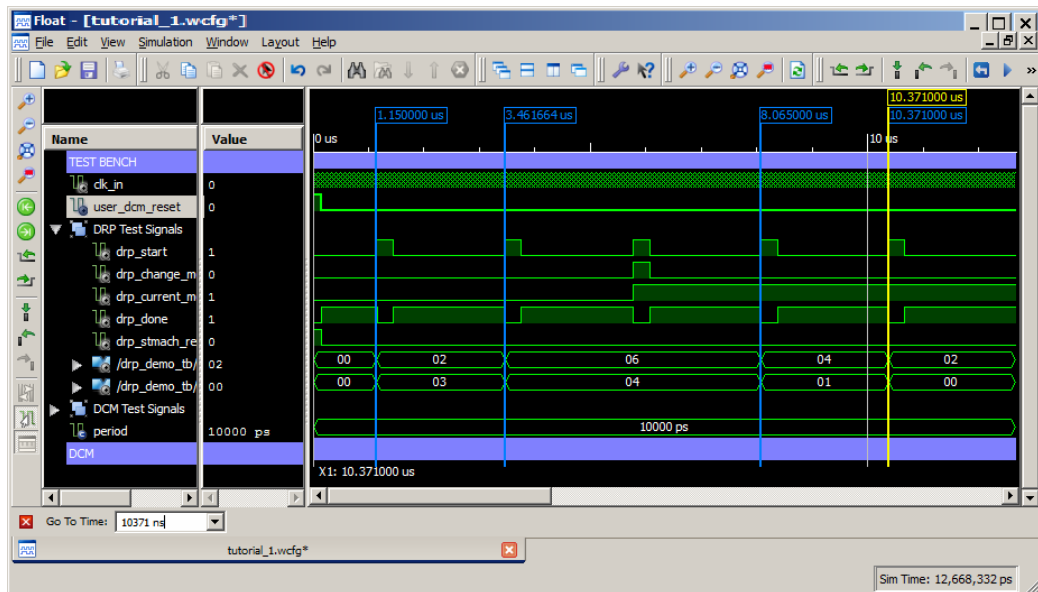

Figure 3-26: Using Markers to Identify Start of Tests
4. Search in the Console for the four tests performed by the test bench, and add a marker for each test start. The Wave window should look similar to Figure 3-26.